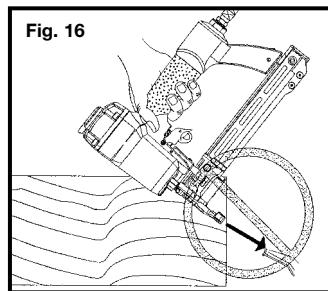

Fig. 16
- **Do not drive fasteners close to the edge of the workpiece.** The workpiece is likely to split allowing the fastener to fly free or ricochet causing personal injury. (Fig. 16)